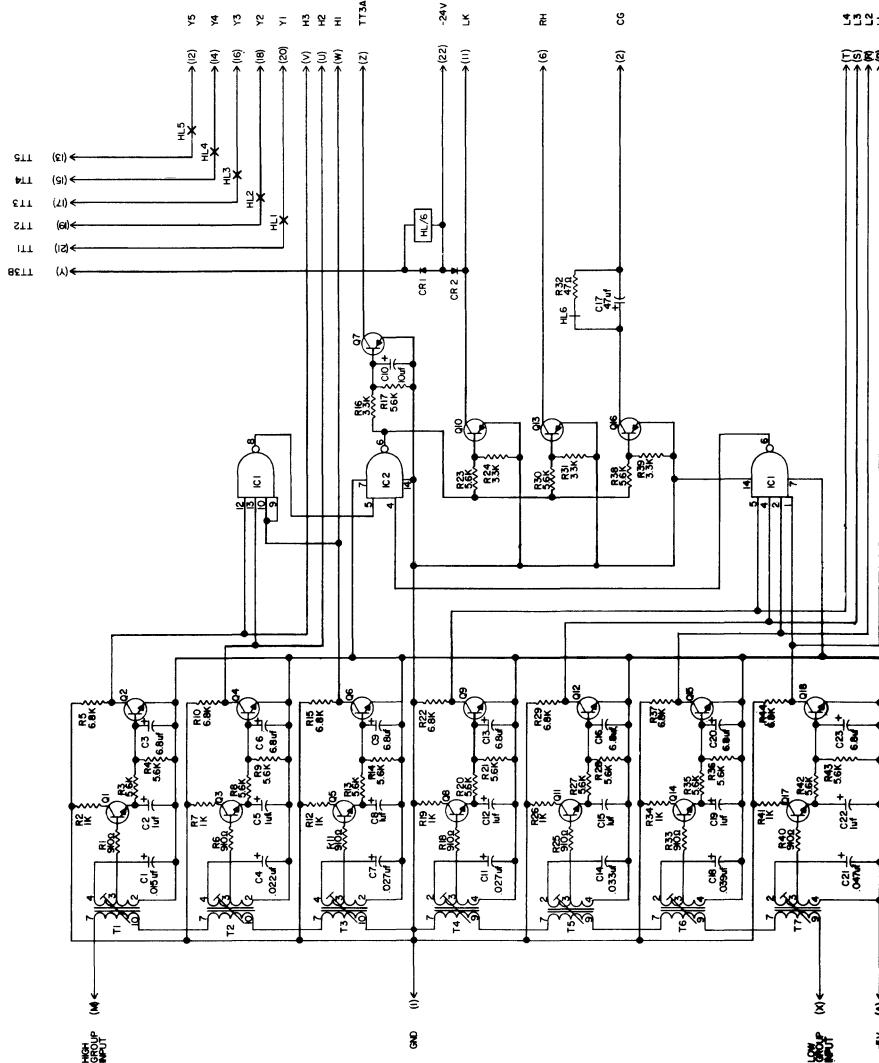

Fig. 5 - Circuit Diagram, K166A KTU
2.05 K166A, Pushbutton (Tone) Dial Detector Card. One is used per system in conjunction with a K166B Translator Card to adapt the intercom system to accommodate pushbutton dialing. Approximate dimensions in inches are 5 3/8" W x 5 5/8" L x 1 1/4" D. (22 dual contacts.) Refer to fig. 5.